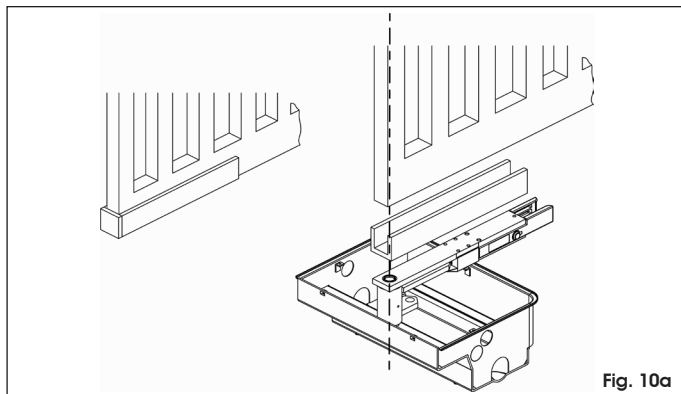

Fig. 10a
- ascertain the correct location of the leaf on the "U" profile with reference to the axis of rotation (Fig. 10a or 10b); seal the "U" profile on the post side with a plate, as shown in Fig. 10a or 10b.